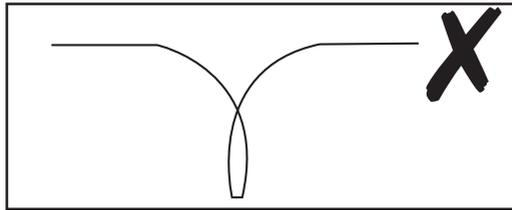

Fig. 16
- Unroll the boundary wire (19) and straighten it out, removing any kinks or tangles (Fig. 16).